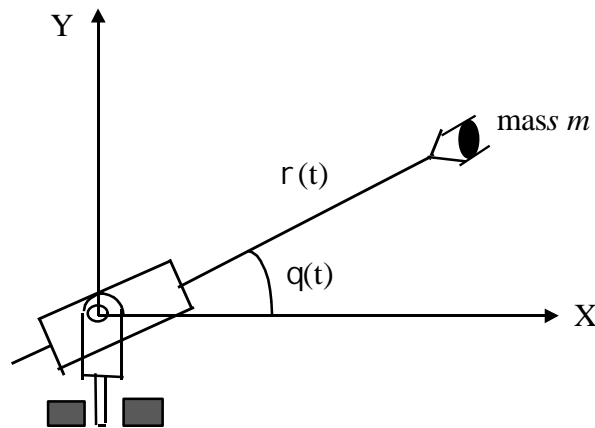
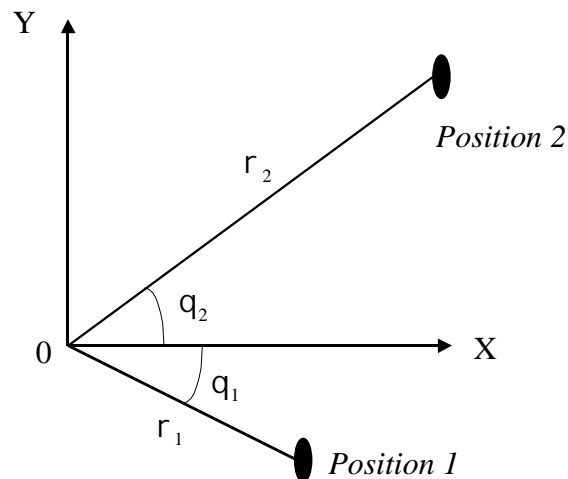

Fig. 7
Fig. 8
4. A two degree-of-freedom manipulator shown in Fig. 7 moves an object of mass  $m$  in the vertical plane. The manipulator starts at rest from *Position 1* at time  $t = 0$  (i.e.  $q(0) = q_1, r(0) = r_1, \dot{q}(0) = 0, \dot{r}(0) = 0$ ), and moves to *Position 2* at time  $t = T$  seconds (i.e.  $q(T) = q_2, r(T) = r_2, \dot{q}(T) = 0, \dot{r}(T) = 0$ ) as shown in Fig. 8.